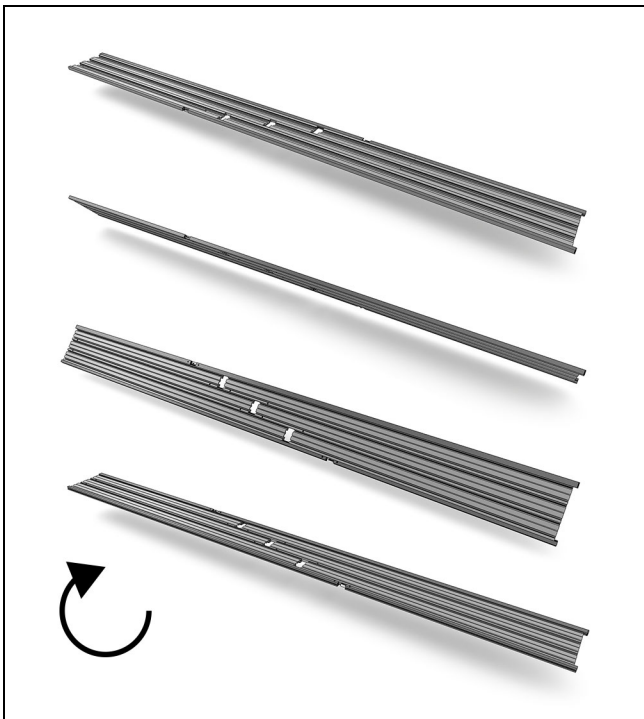

Figure 20
4. Flip the assembly upside down. See Figure 20.